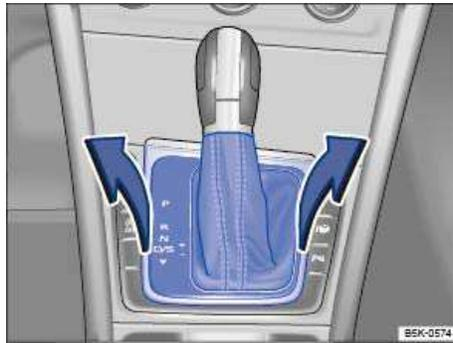

Fig. 182 Removing the selector gate cover.
- Pull upward on the cover around the selector lever sleeve ⇒ fig. 182.